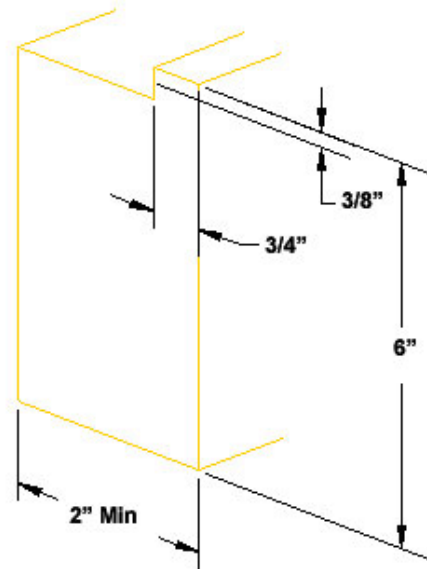

Fig. 14
- e. Notch the top of the Closure Block to accept the Dryvit Track, as shown in Figure 14. **NOTE: Dryvit Starter Strips can be used above windows, doors, etc.** This will minimize the required field notching to only L-shaped closure blocks at the corners.